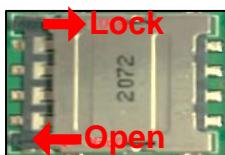

FIG. 1
**Step 2. Insert SIM card (Optional):** Slide the metal frame of the SIM card socket leftwards (**FIG. 1**) and flip it over (**FIG. 2**); then put an SIM card onto the socket (**FIG. 3**).